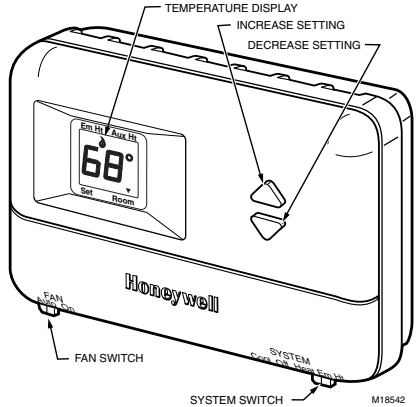

Fig. 7. Digital display and system switches (FAN and SYSTEM).
Fan and system settings are controlled manually by using the switches located at the bottom of the thermostat case. See Fig. 7.
1. Select Heat or Cool by sliding the SYSTEM switch in the lower right corner of the thermostat to the desired mode. See Fig. 7.